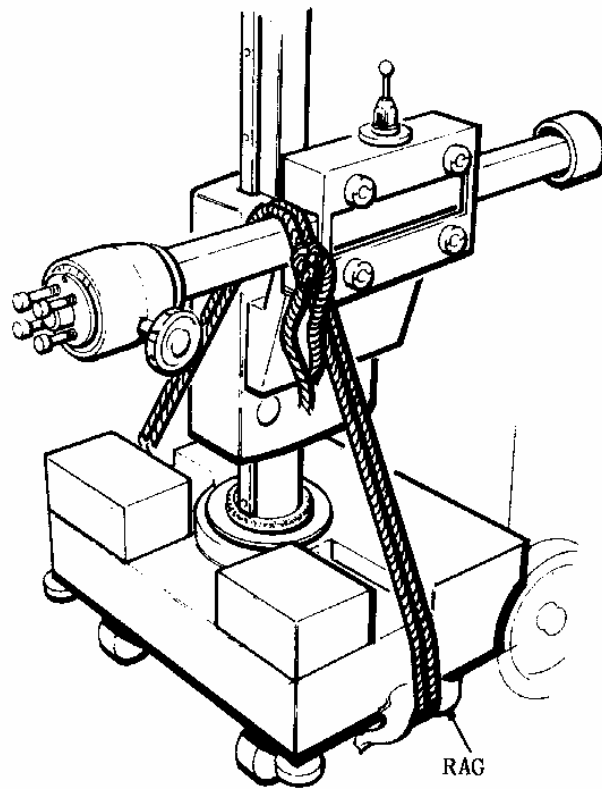

Fig 7 Tying Down the Crossarm
5. TYING DOWN THE CROSSARM Fig 7